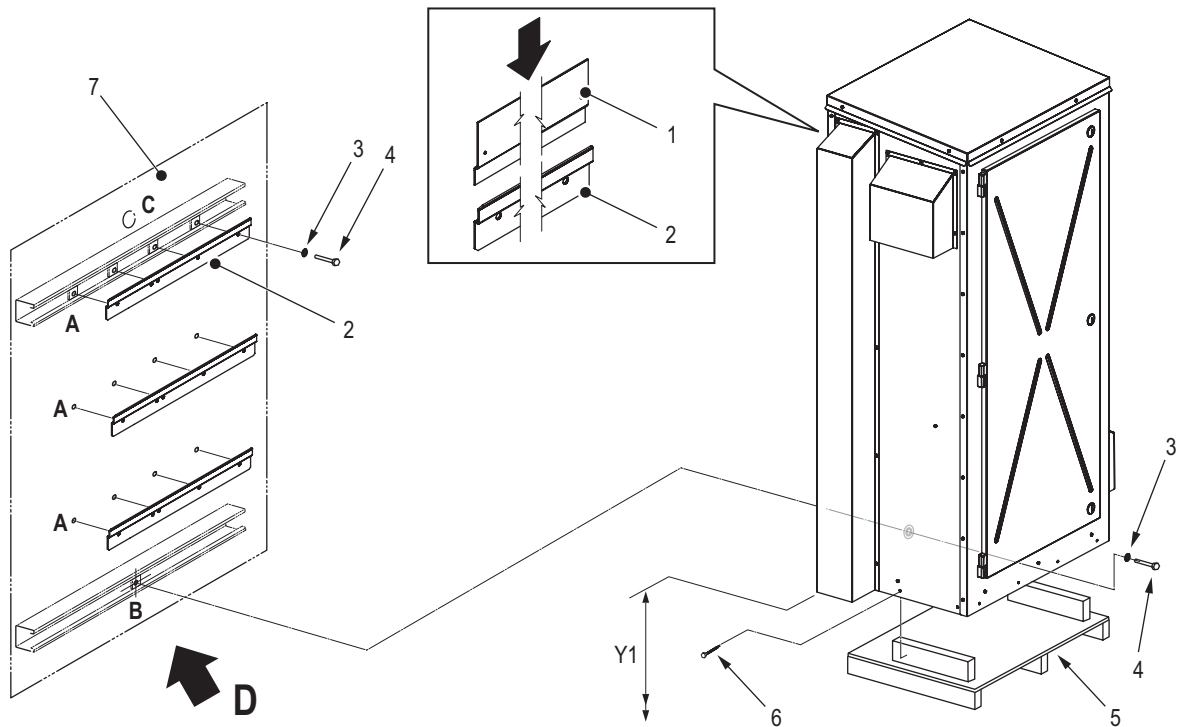

Figure 10: Air Handling Unit Mounting
3. Mark the attachment points "A" and "B" at the desired position with the help of a level. Refer to Figure 10 on page 25 and Table 5 on page 24.